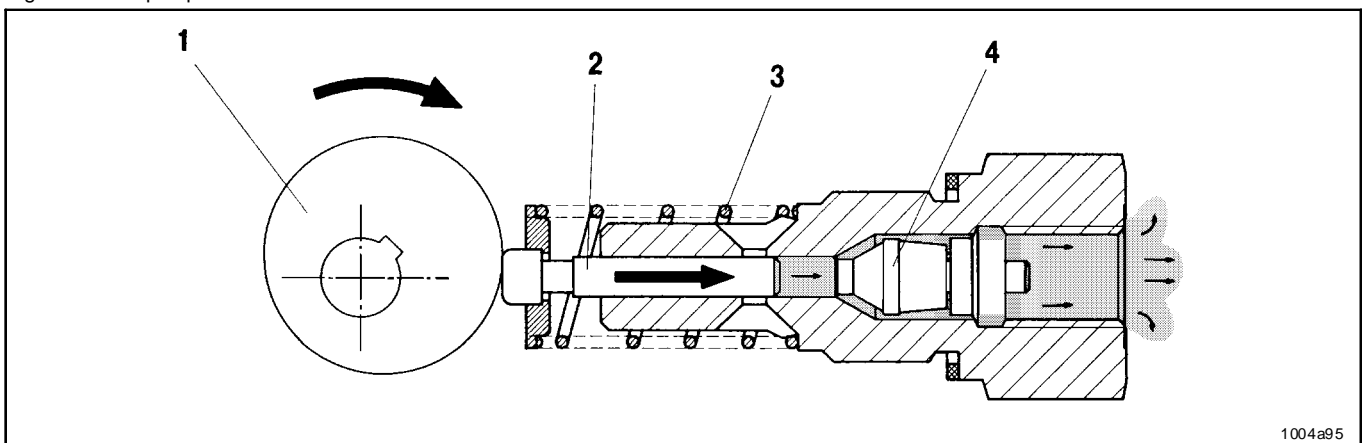

Fig. 2-3 The pump element dispenses lubricant
- piston 2 dispenses the lubricant to the connected lubrication points via the metering device (fig. 2-3).